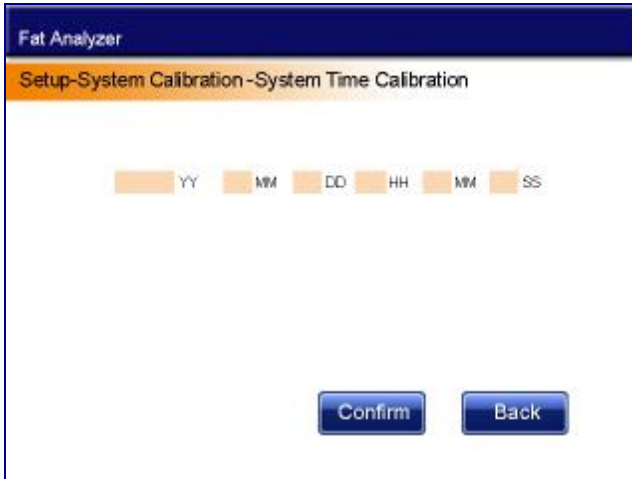

Fig.24
4.2.4.4 Choose the **System Time Setup**, the interface appears, as shown in Fig.24. Users can click the yellow region and input the corresponding time to achieve system time calibration.